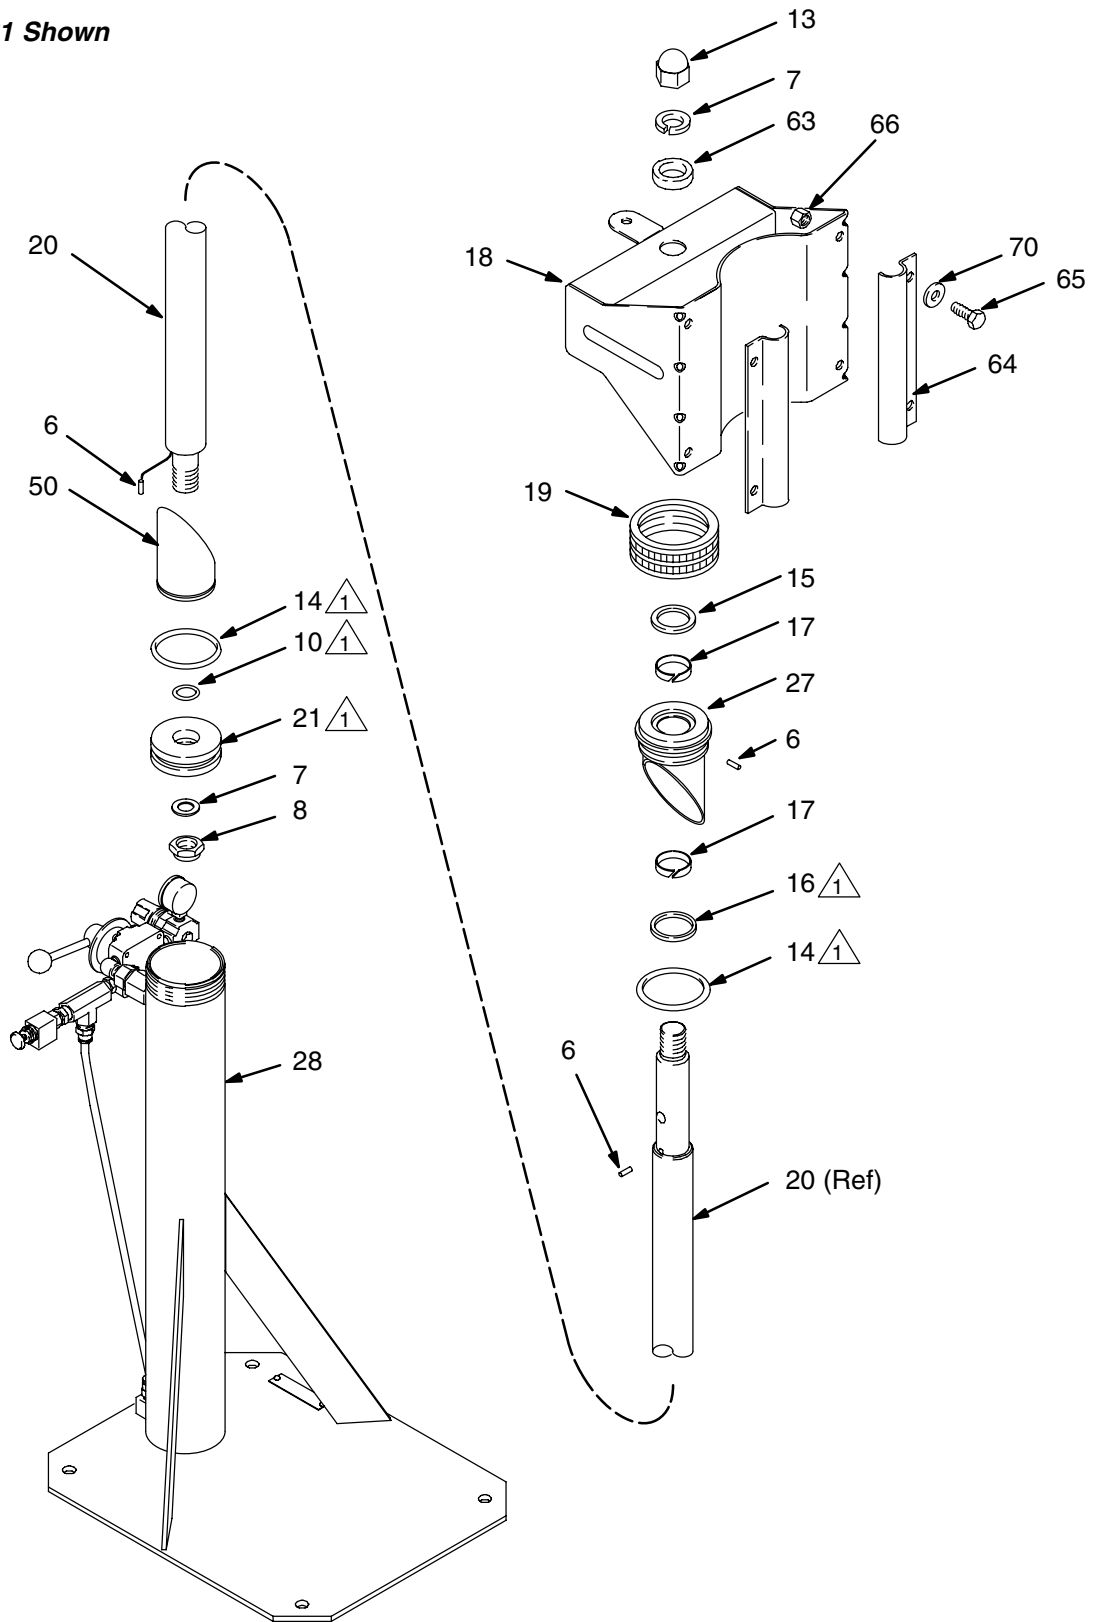

Fig. 2
2. Unscrew the cap nut (13) and remove the pump support (18) and attaching hardware. See Fig. 2 or the parts drawing for your model.
3. Unscrew the cylinder cap (19) and pull the rod guide housing (27) up off the piston rod (20).
4. Remove the v-block packing (16) and bearings (17).
4. Carefully pull the piston rod (20) and piston (21) straight up out of the base (28).